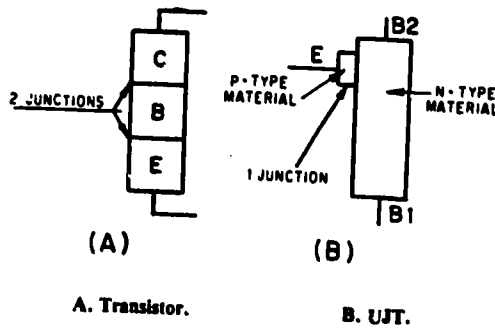

Fig 3-40. Transistor and UJT structure.
As indicated in the block diagram shown in views (A) and (B) of figure 3-40, the lead differences are even more pronounced. Unlike the transistor, the UJT has only one PN junction. The area between base 1 and base 2 acts as a resistor when the UJT is properly biased. A conventional transistor needs a certain bias level between the emitter, base, and collector for proper conduction. The same principle is true for the UJT: it needs a certain bias level between the emitter and base 1 and also between base 1 and base 2 for proper conduction.